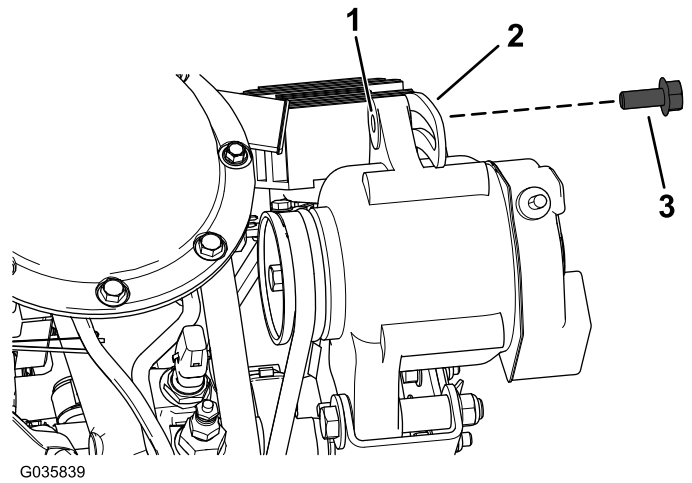

Figure 13
5. Loosely install the hex-head flange screw (M8 x 20 mm) through the slot in the alternator bracket and the hole in the alternator (Figure 13).